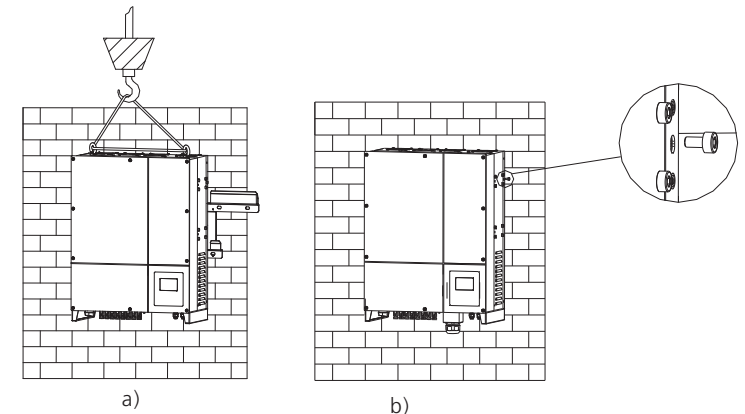

Fig 5.5
- Rise up the Growatt TL3 a little higher than the bracket. Considering the weight of Growatt TL3, you need to hang on the inverter. During the process please maintain the balance of the Growatt TL3. Please reference in Fig 5.5(a).
- Installed one M6\*10 screw at each side of inverter to reliable fixed it on the wall. Please reference in Fig 5.5(b).